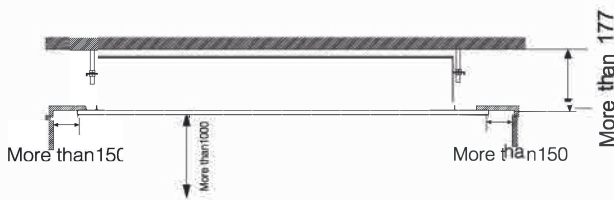

Figure 1
- (1) Select the installation location that meets the following conditions and get approval of the customer.
- Where a space sufficient for installation and service can be ensured. (Refer to Figures 1 and 2)